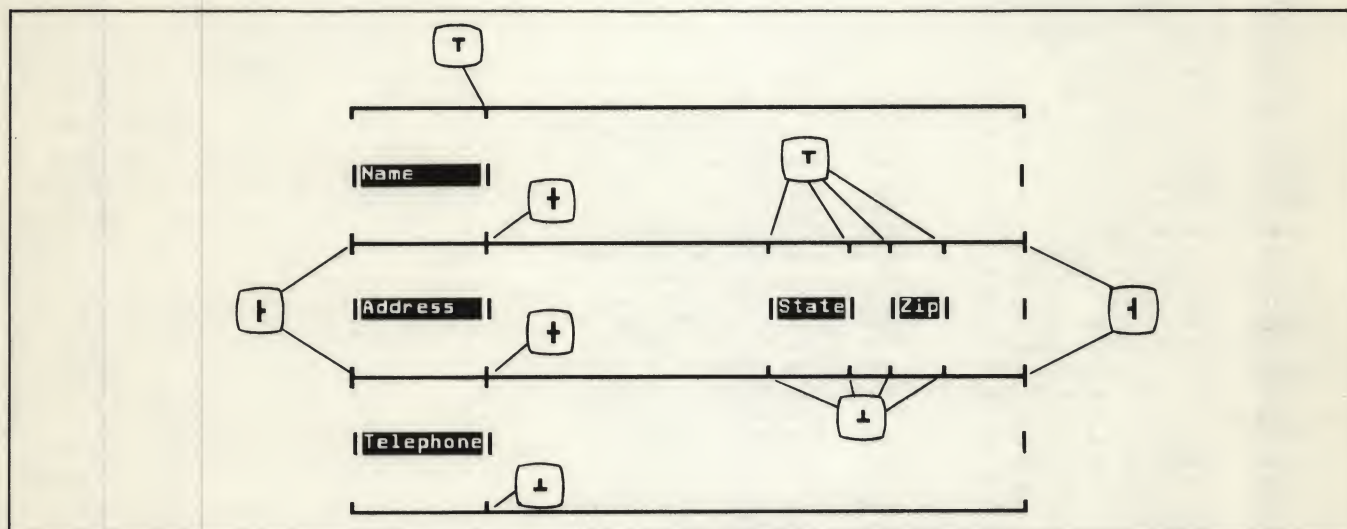

Figure A-6. Building a Form — Phase 2
2. Move the cursor to each line intersection, and press the appropriate soft key. Figure A-6 shows the soft key used at each line intersection in the sample form.